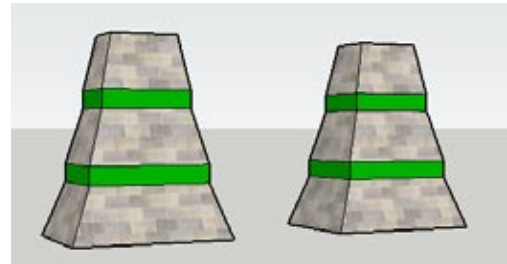

Figure 8-33
1. Download my Painting Multiple Faces model from the 3D Warehouse (Figure 8-33). The goal is to create a copy of the stone material and then apply this new material to some of the faces in the model.